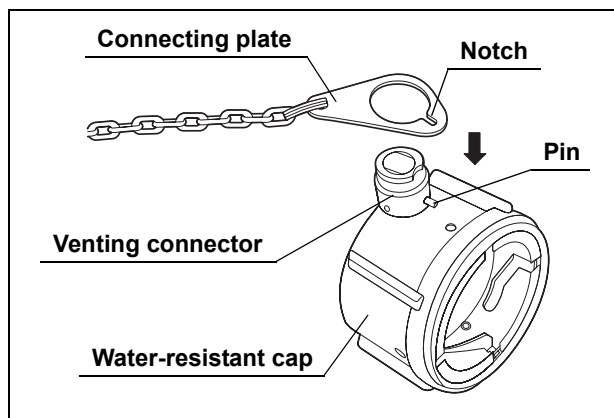

Figure 2.2
2. Align the notch on the connecting plate with the pin on the venting connector of water-resistant cap (MH-553, see Figure 2.2).
3. Place the connecting plate over the venting connector (see Figure 2.2).
4. Confirm that the connecting plate is securely attached to the foot of the venting connector and can be smoothly rotated (see Figure 2.2).